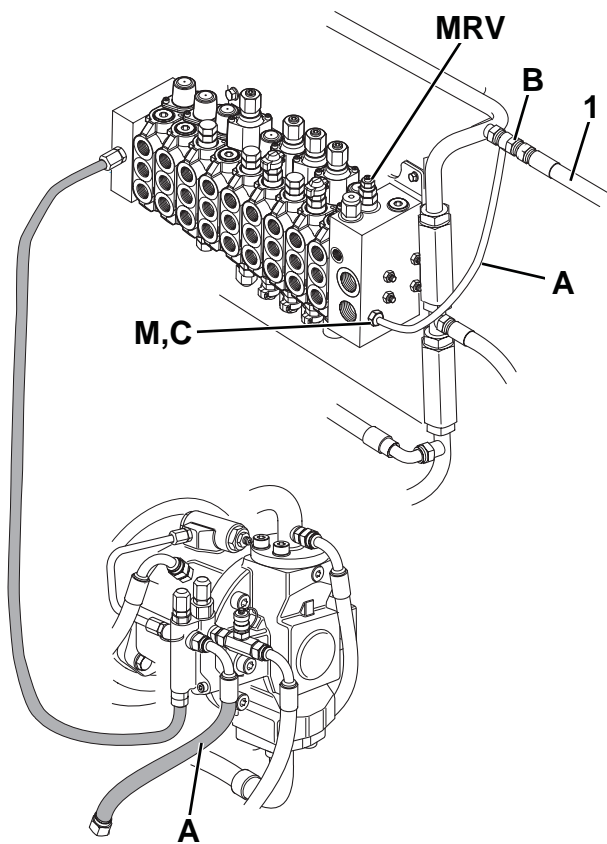

Fig 6.
- 11 Refit the adapter from **FR1** to **FR2** and replace the blanking cap and refit hose **2** to **FR2** ⇒ Fig 6. (□ E-34).